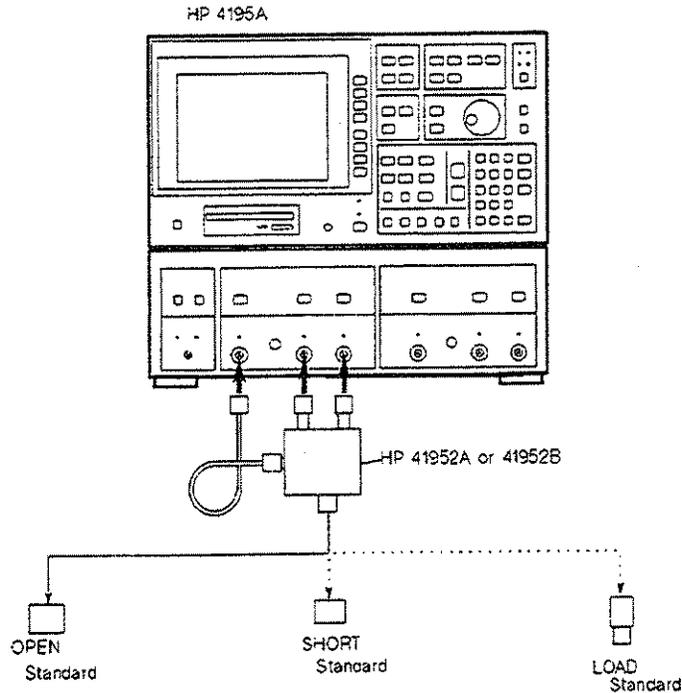

Figure 4-2. Effective Source Match Test Setup
1. Connect the HP 41952A/B to the HP 4195A, as shown in Figure 4-2.